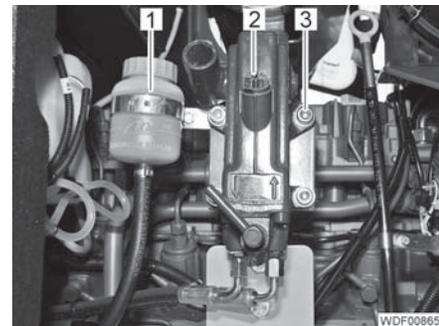

Fig. 58 Retaining plate of hand pump
- Position the hand pump (Fig. 58,2) and tank (Fig. 58,1).
- Screw in and tighten the 4 screws (Fig. 58,3).